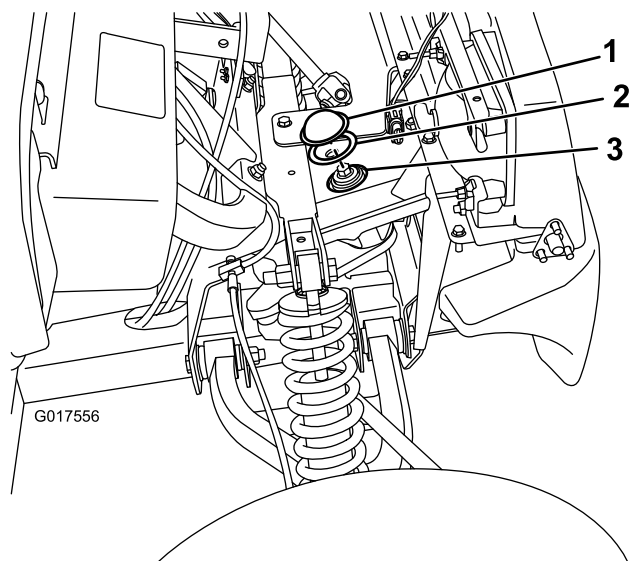

Figure 1
4. Locate the steering box opening (Figure 1).
5. Remove the adhesive backing from one side of the adhesive gasket and adhere the gasket to the flange on the underside of the cover (Figure 1).
6. Remove the adhesive backing from the other side of the gasket and adhere the cover to the frame as shown in Figure 1.